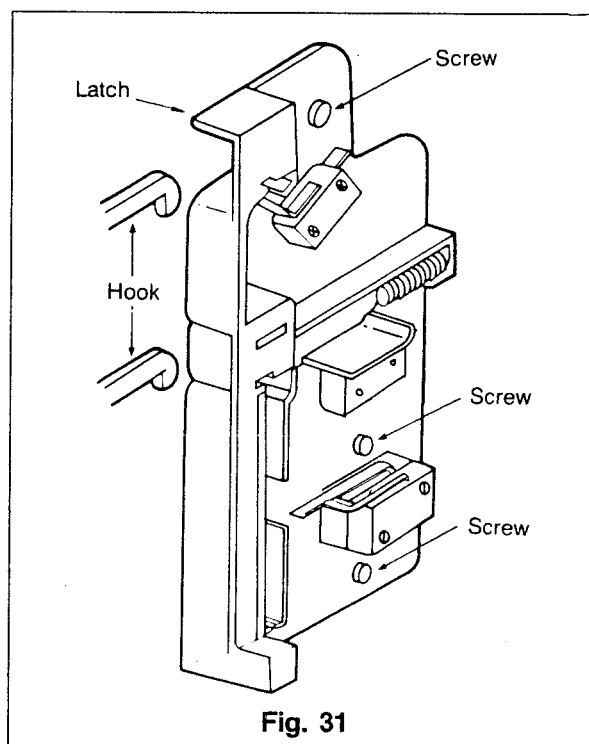

Fig. 31
- a) Loosen screws on latch located right of oven body. (See Fig. 31)
- d) Check the gap as item 12.